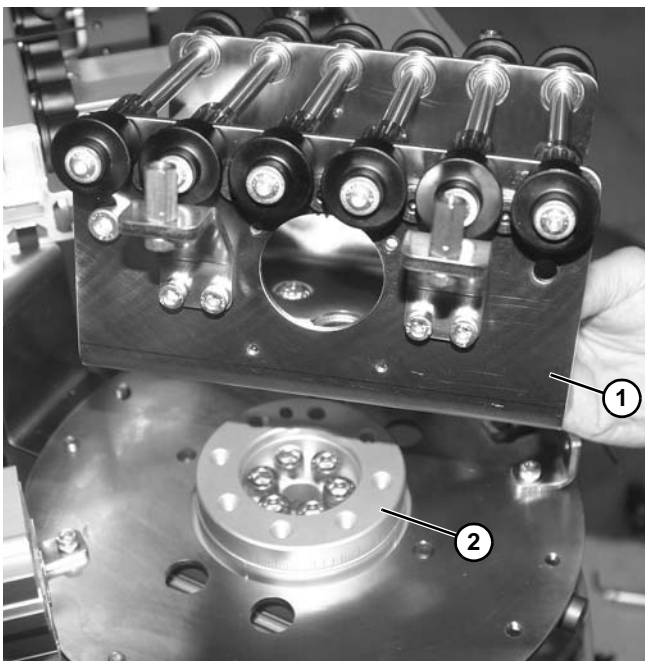

Figure 153
5. Remove turn and transfer assembly (Figure 153, item 1) from cylinder (Figure 153, item 2).